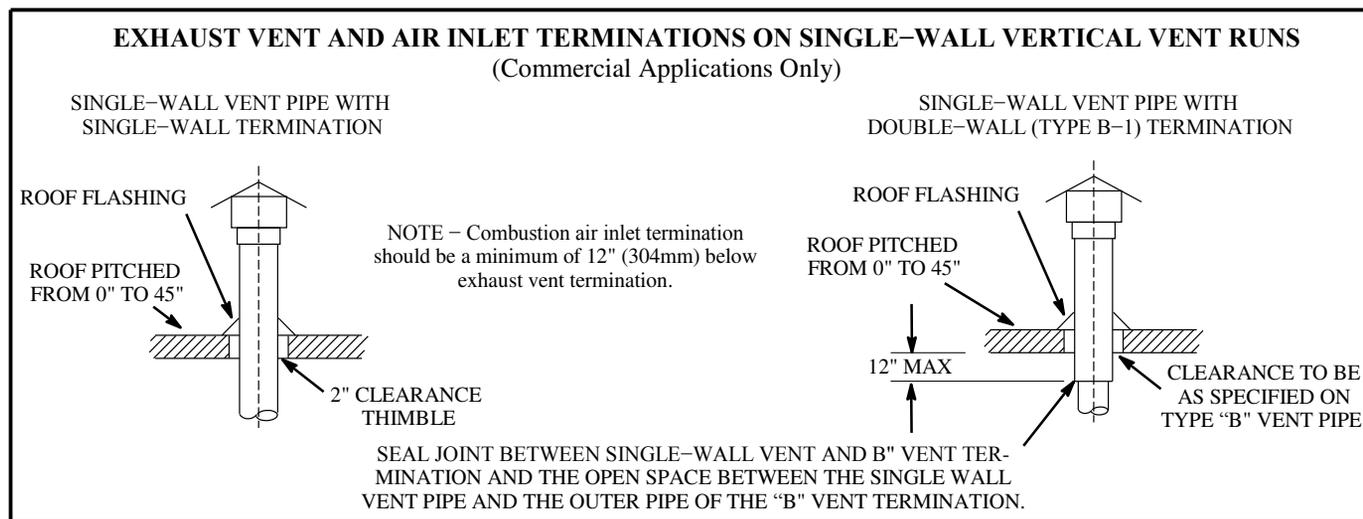

FIGURE 2
- 1) These unit heaters are to be used with NFPA- or ANSI-approved chimneys or U.L.-listed type B-1 gas vents, or listed chimney lining systems for gas venting where applicable, as well as the modifications and limitations listed in figure 2. Seal single-wall vent material according to **General Recommendations and Requirements** section. Air inlet pipe may be single-wall metal pipe or U.L.-listed single-wall metal flex connector.